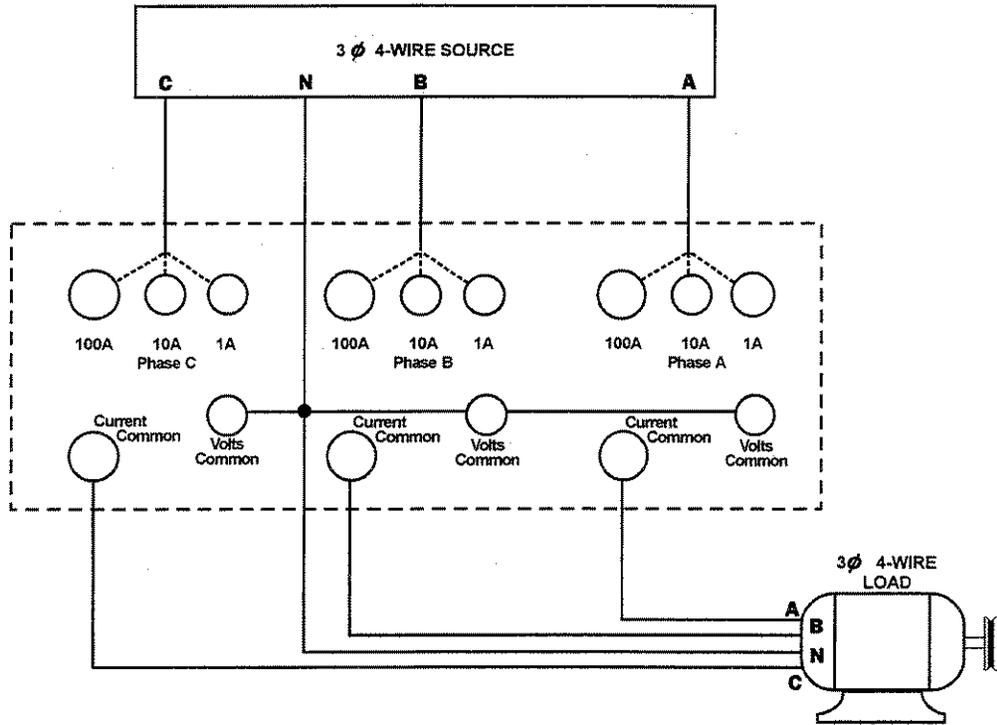

Figure 6-17. Three-Phase Four-Wire Load Power Connections
Connect the wattmeter as shown in Figure 6-17. **Caution!** Do not run the neutral current through the VOLTS COMMON terminals. Tap off the neutral wire to connect the VOLTS COMMON terminals.
- 1) Connect the 2300 as shown in Figures 6-17 to 6-24 as determined by your application. Make connections to the appropriate current shunt terminals for the expected range of current levels.